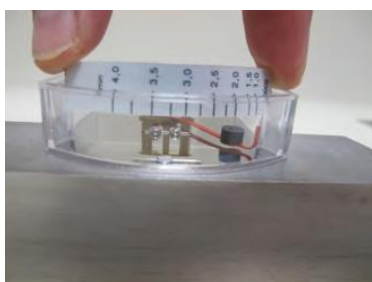

Fig. 68
- 17.** ► Slide the scale holder (with the affixed scale) into the guide of the plastic housing. (Fig. 68). Note direction of flow (lower scale value toward the input side of the device).